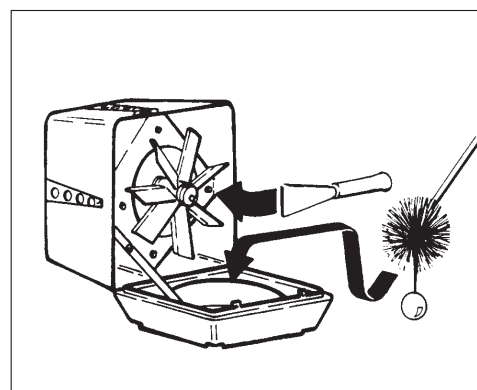

Fig. 12
- If necessary, use a scraper and a brush to clean the impeller and the inside fan base (see fig. 12).